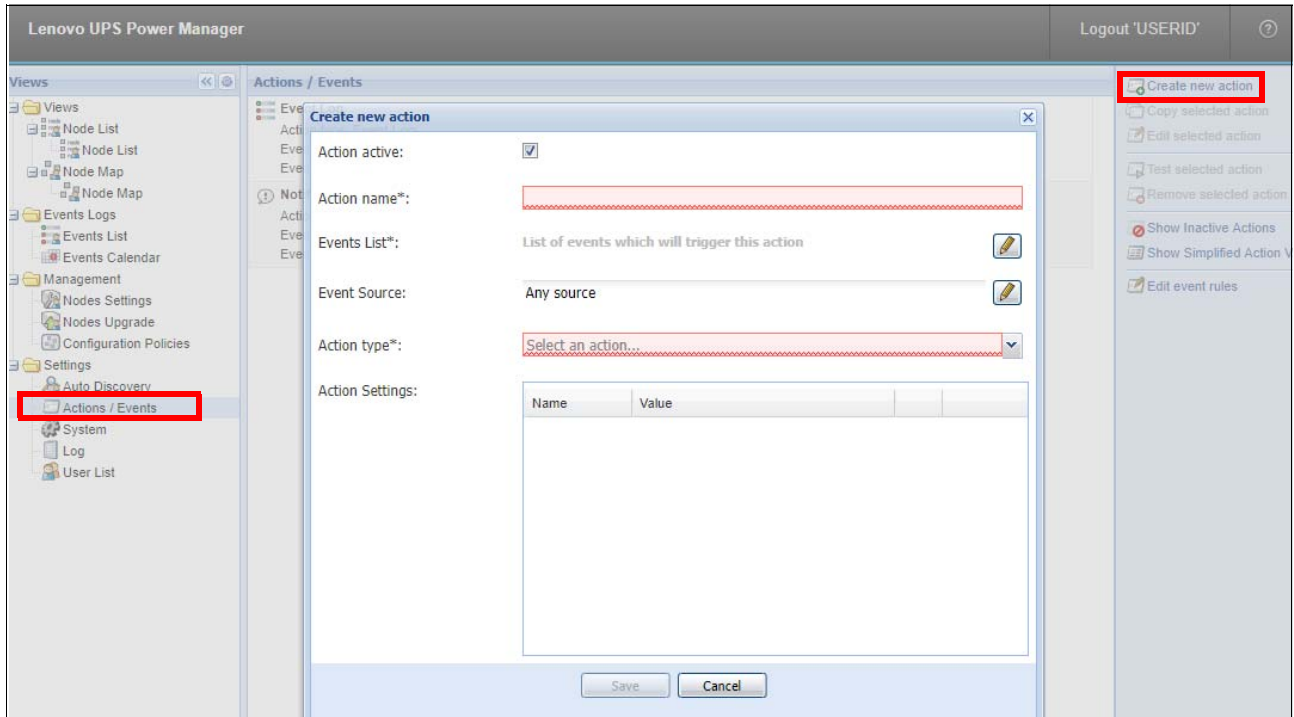

Figure 45 Create new action
2. Click **Create new action** on the right side of the window, as shown in Figure 45.